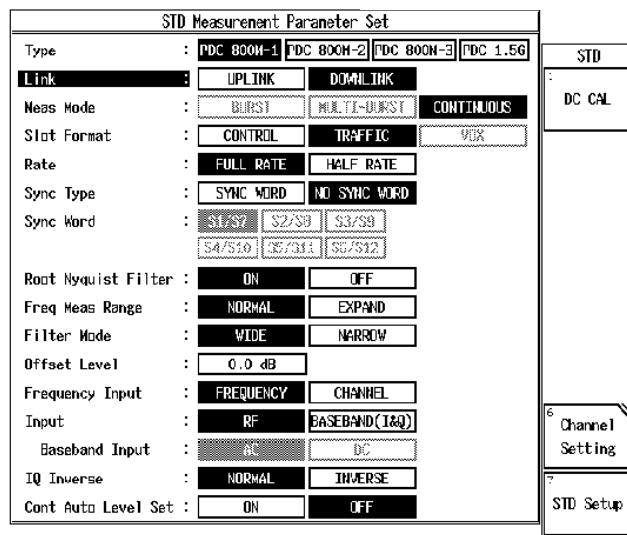

Figure 6-2 Setup of Parameter for Phase Accuracy Measurement (PDC)
3. On the R3267 Series, set the STD parameter as shown Figure 6-2.